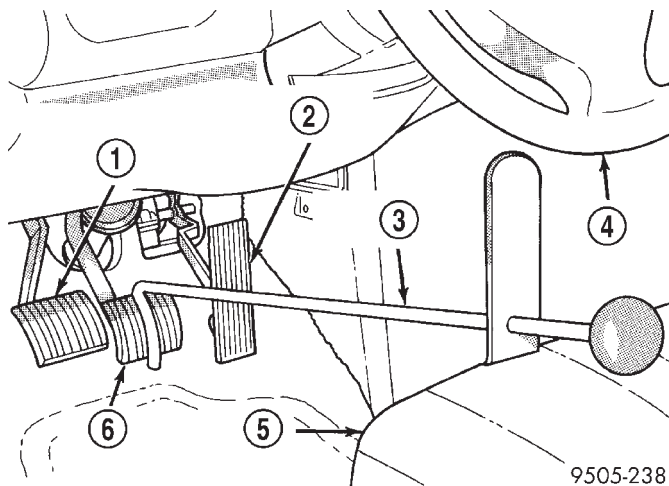

Fig. 24 Brake Pedal Holding Tool Installed
(3) Using a brake pedal positioning tool such as shown in (Fig. 24) depress brake pedal past its first 1 inch of travel and hold in this position. This will isolate the master cylinder reservoir from the brake hydraulic system, not allowing the brake fluid to drain out of the reservoir.
(4) Raise vehicle on jackstands or centered on a hoist. See Hoisting in the Lubrication and Maintenance section of this manual.